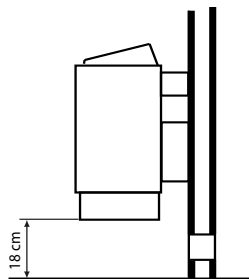

Fig. 6
4. Hook the sauna heating unit into the wall mounting using the mounting slots on the rear wall and place against the spacer (Fig. 6).